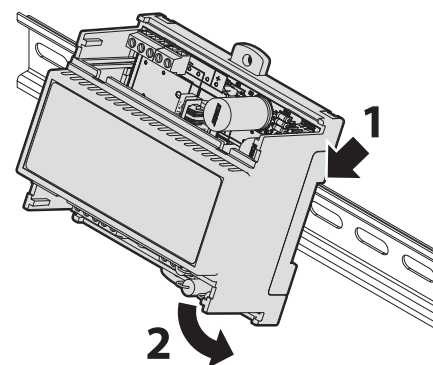
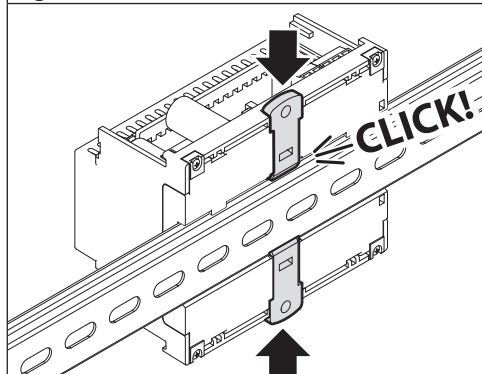

Fig. 5
Fig. 6
3. Hook first the top part of the device to the DIN rail then rotate the device (Fig. 5) and close both fixing clips **E** (Fig. 6)